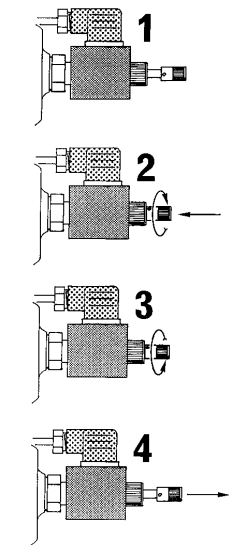

fig. 10b
- (!) On the distributor it has been installed an electro-valve with a manual locking function (fig.10-10a) which allows to reactivate all the crane functions in case of absence of the electric power. Only in these conditions it is permitted to remove the lead seals which protects the device. Push the button and turn it into the clockwise sense (fig. 10b pos. 1-2); the button stays in stable and closed position.
(!) When the electric power is reestablished, remember to put the button in its original position, turning it into the anti-clockwise sense. (Fig. 10b pos. 3-4)